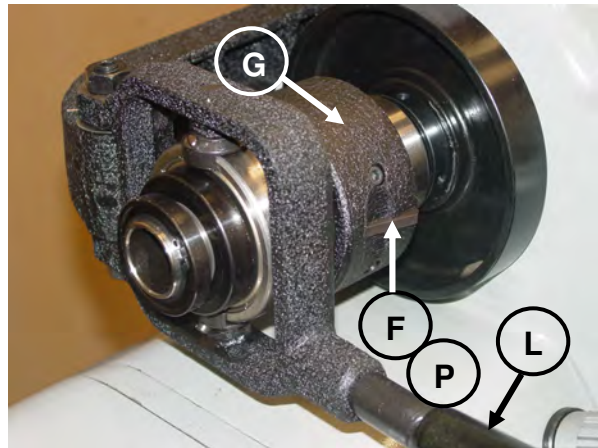
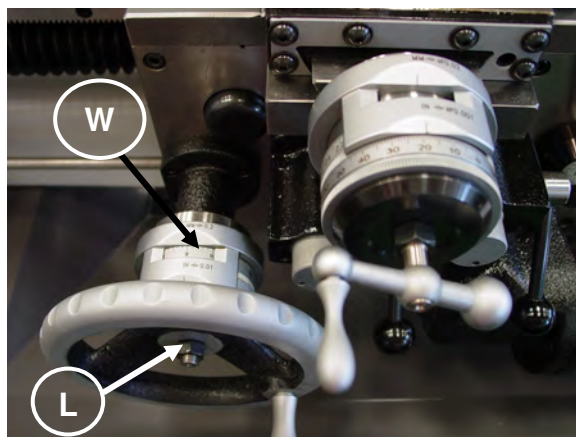

Figure 22-Collet Closer Adjustment
Figure 23-Carriage Indicating
3. Press the Closer Adjusting Finger "F" (Figure 22) down to the point "P" (Figure 22).
4. Guard "G" (Figure 22) forward with the left hand, and hold the collet or step chuck with the right hand at the same time.
6. Place lever "L" (Figure 22) to the extreme left fixed position. Turn the Shell Guard "G" (Figure 22) toward operator until the work piece is clamped by the collet.
7. Place lever "L" (Figure 22) to the right, the released position. Turn Shell Guard "G" (Figure 22) toward operator, move the Adjusting Finger "F" (Figure 22).
8. Test collet closer's tension on work piece. If the work piece needs additional gripping pressure, press down on the adjusting finger "F" (Figure 22) and turn Shell Guard "G" (Figure 22) forward and lock. (see Figure 22).
Dual dials with Inch and Metric Handwheel dial "W" (Figure 23) graduations are in 0.01" 0.2mm. It is built for the operator's convenience of operation. (Figure 22) Spring loaded indicating ring, just turn to required location by loosening lock screw "L" (Figure 23) Sliding cover cage exposes only the dial in use.